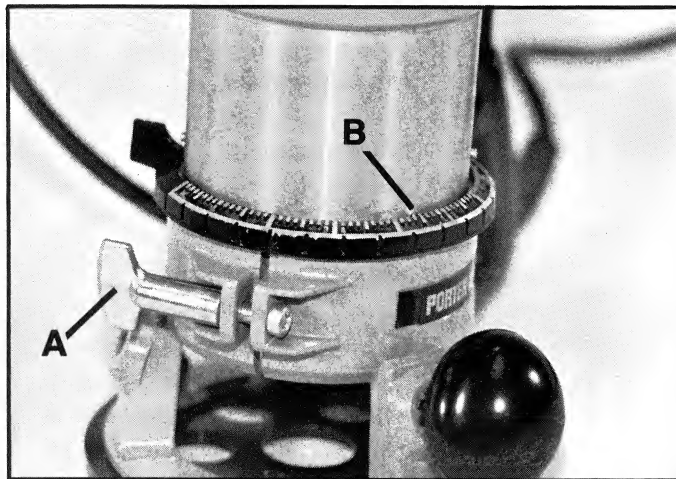

Fig. 4
2. Loosen the Clamp Screw (A) Fig. 4 to allow the Power Unit to be set in the Base Unit.
3. Insert Motor Unit into base aligning lower pin (B) with groove in base.